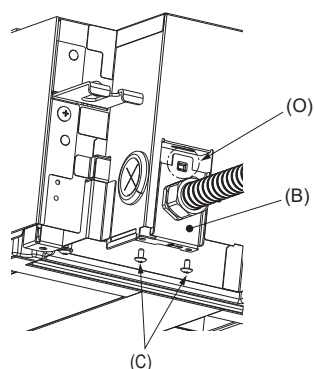

Fig. 6-2
* Make sure that the tab (O) on the conduit plate (B) is inserted into the opening on the electrical box. (Fig. 6-2)